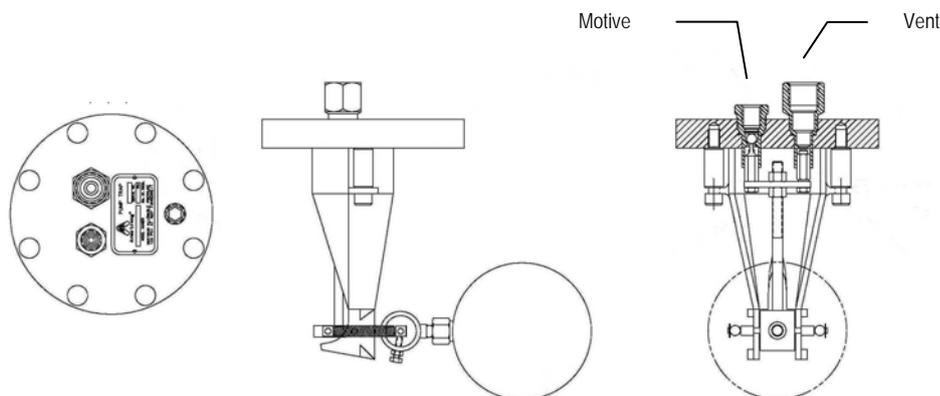

Fig.2 : EPT-300 Series Cap Assembly
3. Inspect the mechanism for freedom of movement. Remove any dirt or scale inhibiting the motion of the mechanism (see figure 2 on page 2).